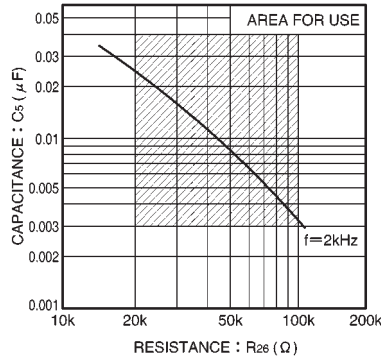

Fig. 7 Value of external components for oscillator (V_{cc} = 5.0V)
(3) The external resistor R_{26} connected to the oscillator (pin 28) should be in the range of 20k Ω and 100k Ω . If it is outside this range, oscillation may stop due to the influence of temperature (see Fig. 7).